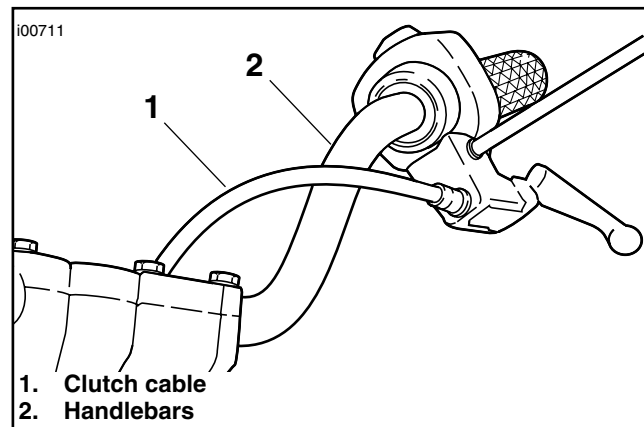

Figure 4. New Clutch Cable Routing
1. See Figure 4. Relocate clutch cable (1) to the inside of the handlebars (2) as shown in illustration as follows:
- d. Reroute clutch cable to the inside of the handlebars as shown in Figure 4 and reconnect clutch cable to clutch lever by reversing step c.